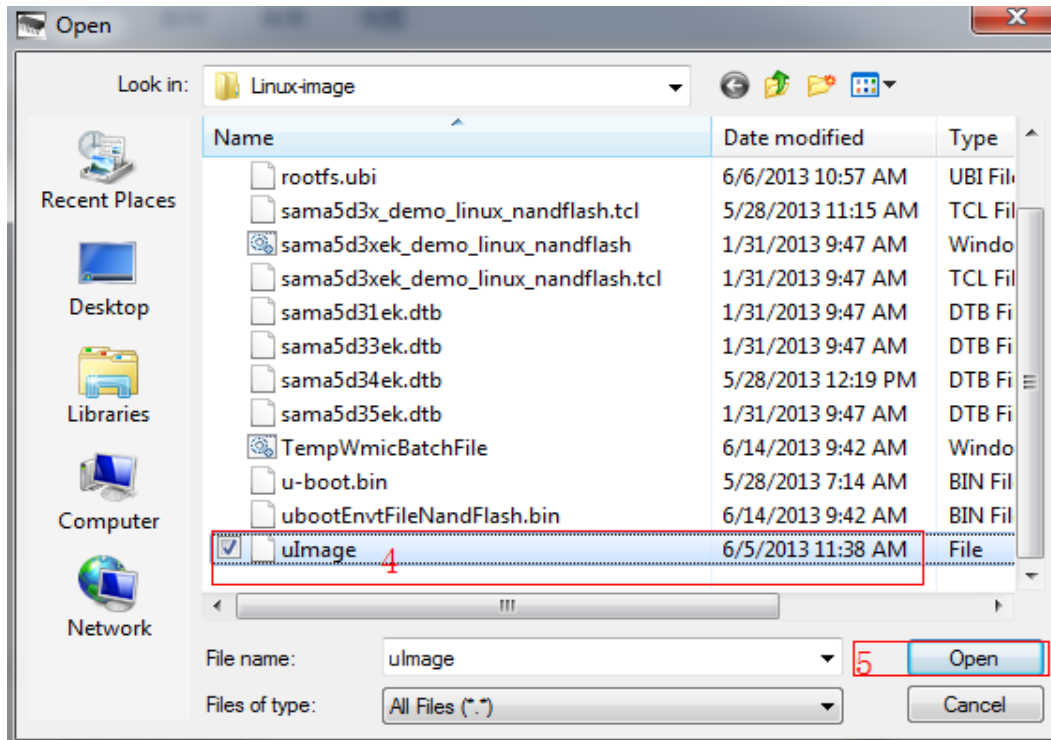
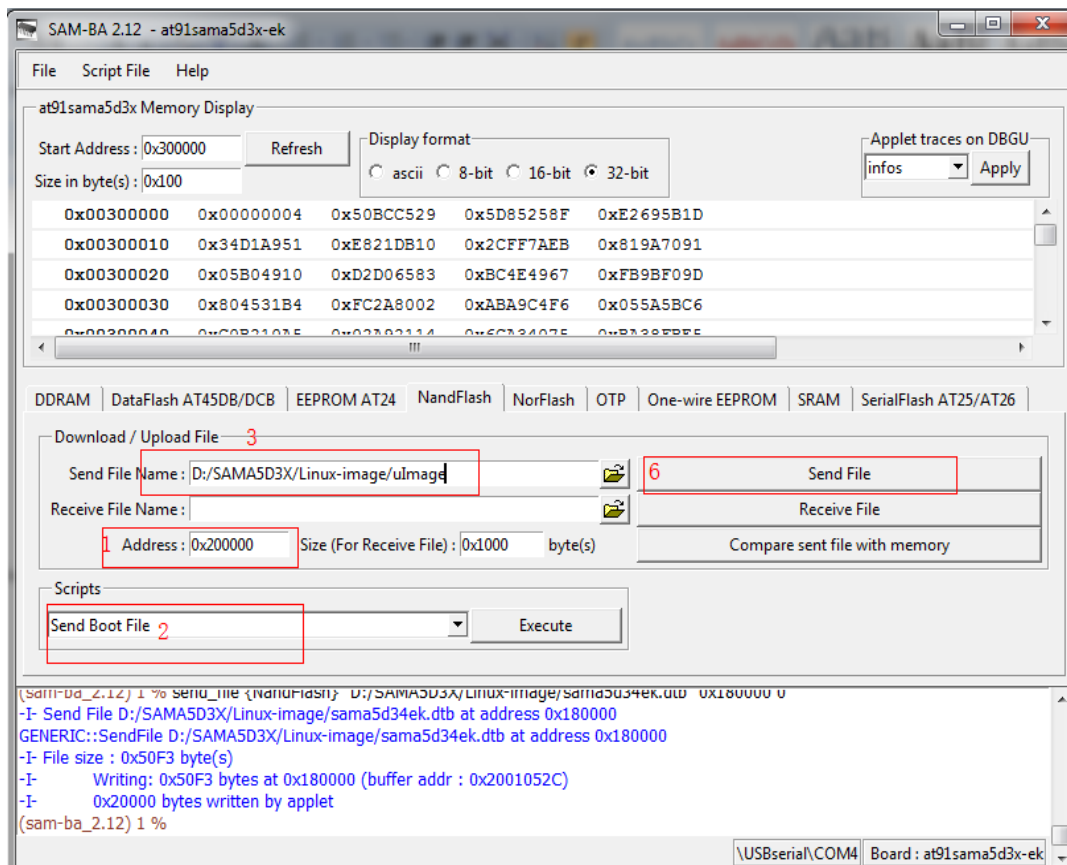

Figure 3-15
Figure 3-16
⑧ Download Linux kernel [ulmage] to 0x0020 0000. Refer to figure 3-15 and figure 3-16: